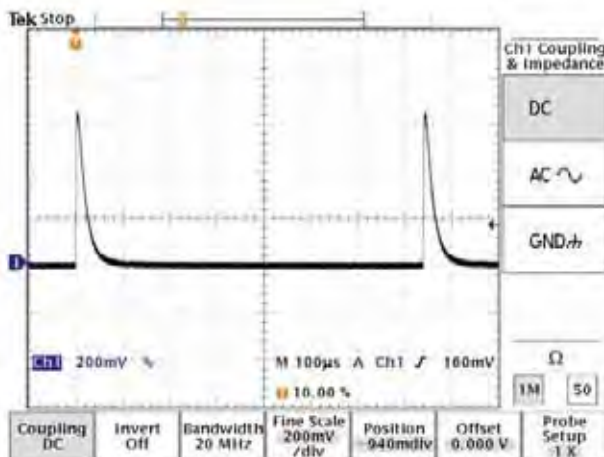

Figure 1
7. If you know your expected laser pulse repetition rate, set the scope time base to show 2 pulses on the screen. This helps set the trigger and allows observation of the true “baseline” of the pulse. For example, for a laser running at 10 pps, set the scope time base to 20 msec/division. Once proper triggering occurs, use the vertical adjust to set the baseline of the EnergyMax voltage pulse to coincide with a horizontal grid line (see Figure 1).